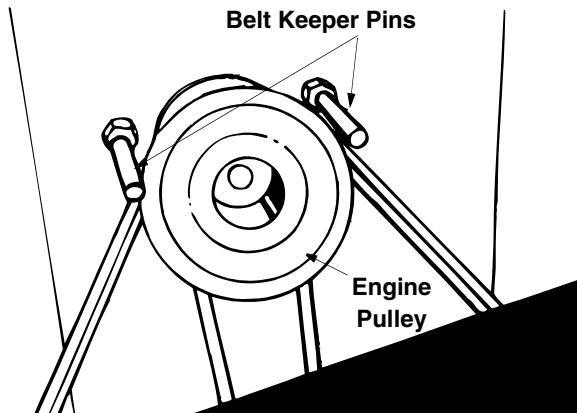

Figure 23
NOTE: *Figures 23, 27 and 28 are shown with the unit tipped up for clarity. It is not necessary to tip the unit to remove the belts.*
NOTE: When reassembling, make certain belt keeper pins are assembled in the same locations from which they were removed. See Figure 23.
4. Remove the belt keeper pins from the lower frame. See Figure 23.
3. Remove the belt keeper pins from the engine pulley belt guard. Refer to Figure 23.
NOTE: Make certain belt keeper pins are reassembled as shown in Figure 23.